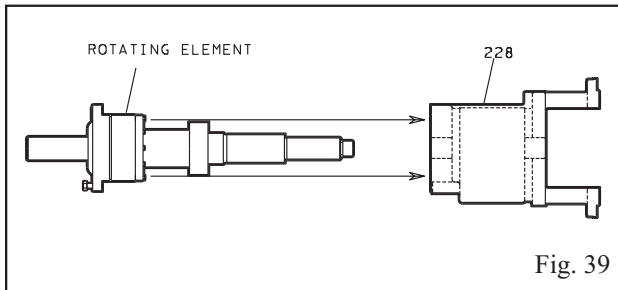

Fig. 39
13. If radial end cover (109A) was removed, degrease contact surfaces and those in bearing frame (228) and apply Loctite 518 to the outer diameter of cover.
15. Lightly lubricate bores of bearing frame (228), outer diameters of radial bearing (409) and thrust bearing housing (134A), and housing O-ring (496) with compatible oil or grease (Fig. 39).
16. Carefully insert rotating element into bearing frame (228).